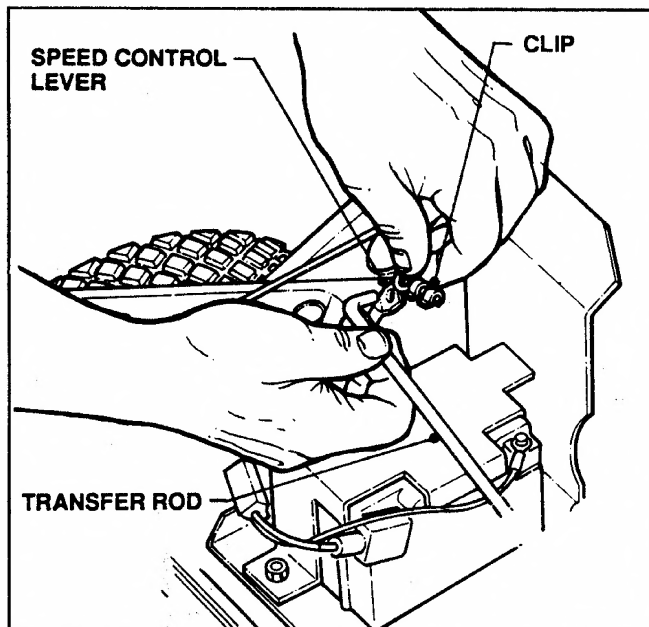

FIGURE 1
STEP 1: Remove clip and disconnect transfer rod from speed control lever and driven disc assembly. See Figure 1.